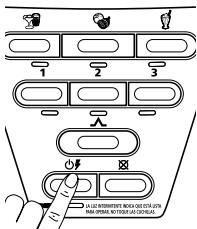

Fig. 19
- Press the **Off** (Fig. 19) power button to turn the product on. The power light will blink, meaning the product is active and ready to use.
- Press the **Off** (Fig. 19) power button to turn the product off.